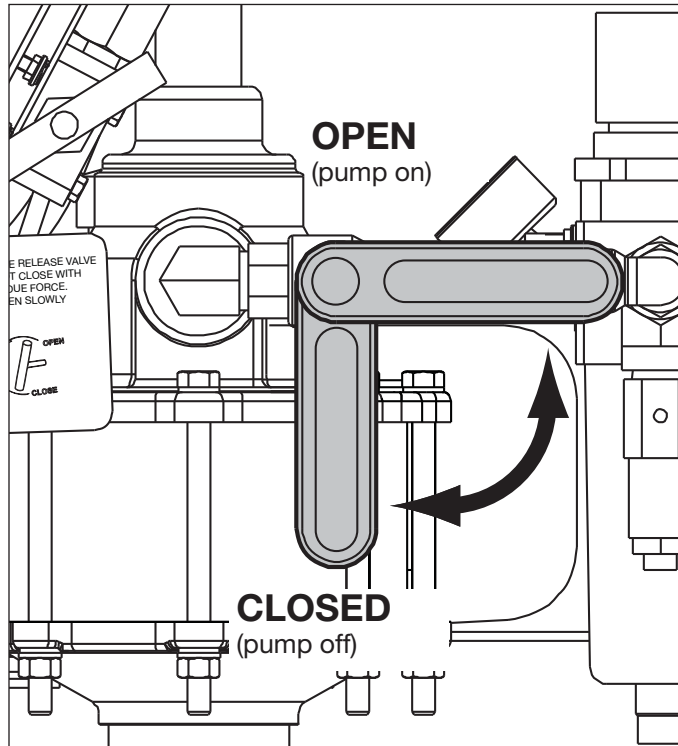

Figure 4, Air-Shutoff Valve
**IMPORTANT:** New pumps MUST be primed BEFORE initial start-up. Perform priming procedure as described in the following steps. Refer to figures 4 through 7.
Operate the pump as described in sections 5.1 through 5.4. Refer to Figures 4 through 7.